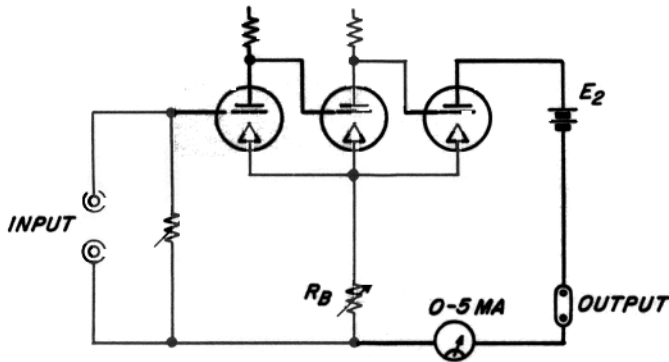

Figure 2. Cathode-Follower Circuit.
2.1.1 The amplifier circuit is essentially a cathode-follower, where the "tube" is a three-stage, direct-coupled amplifier. (See Figure 2.) The net transconductance is so great that the voltage change across the cathode resistor is essentially the same as the voltage applied to the input terminals. The panel meter reads the current change in the cathode resistor (R_B) and is calibrated to read millivolts directly. Different ranges are obtained by the selection of different values for R_B . The meter zero is the same for all ranges. The full-scale ranges are 30, 100, and 300 millivolts, 1, 3, and 10 volts. The corresponding R_B values are 6, 20, 60, 200, 600, and 2000 ohms.
2.1.2 Because the first stage is an electrometer tube, the grid current is small (about 10^{-14} amperes). The glass envelope of the tube has been treated with General Electric Dri-Film SC-87, and all other insulation of the input circuit is of teflon. As a consequence, the input resistance is determined by the setting of the INPUT RESISTANCE switch (R_A , Figure 2), even under conditions of high humidity.
2.2.2 A second method of measuring current results in an appreciably lower "ammeter resistance". Since the voltage at the input and the voltage across R_B are practically equal and of the same polarity, the voltage difference from the high INPUT terminal (grid of first tube) to the high side of R_B (I, Figure 2) is very small. Any current source connected between these two points cannot develop appreciable voltage between the points, and the "ammeter resistance" is therefore very low. The unknown current, however, still flows through R_A , and therefore the instrument indicates current in the same manner as that described in paragraph 2.2.1. The lower "ammeter resistance" is obtained at some sacrifice in stability, however, if the source resistance is relatively low. (Refer to paragraph 4.3.)